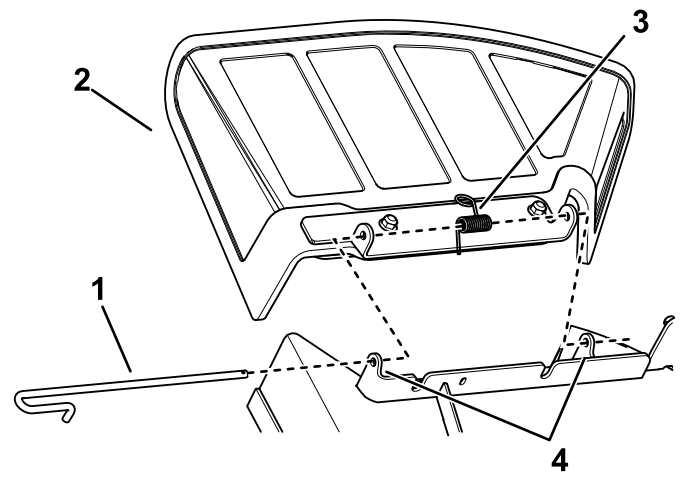

Figure 66
- Disengage the spring and slide the rod out of the welded deck brackets, spring, and discharge deflector (Figure 66).
- Position the new discharge deflector with the bracket ends between the welded brackets on the deck and install the rod and spring as shown in Figure 66.
- Place the end of the rod in the notch of the bracket (Figure 66).